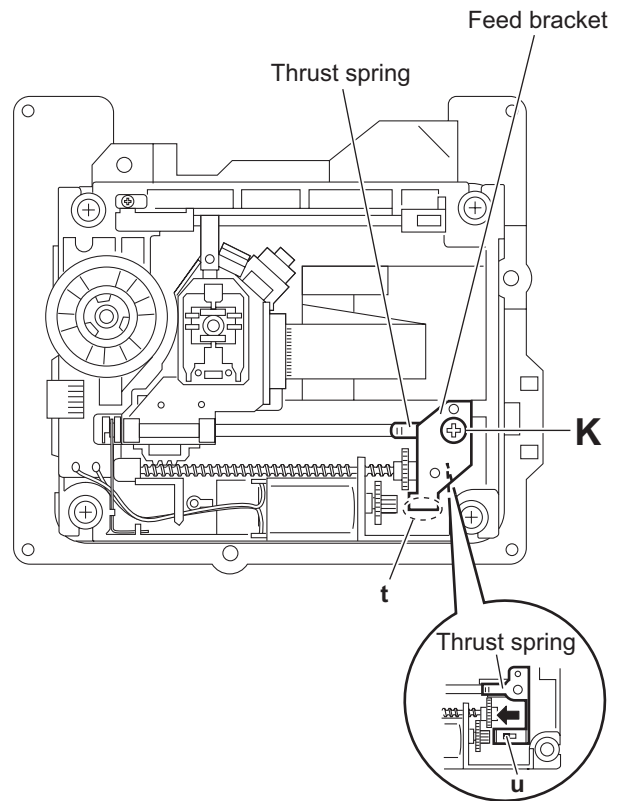

Fig.18
3.2.10 Removing the feed motor (See Figs.18 and 19)
- (1) From the top side of the DVD traverse mechanism assembly, remove the screw **K** attaching the feed bracket and remove the feed bracket from the sections **t**. (See Fig.18.)
- (2) Release the claw **u** of the thrust spring in the direction of the arrow and remove the thrust spring. (See Fig.18.)